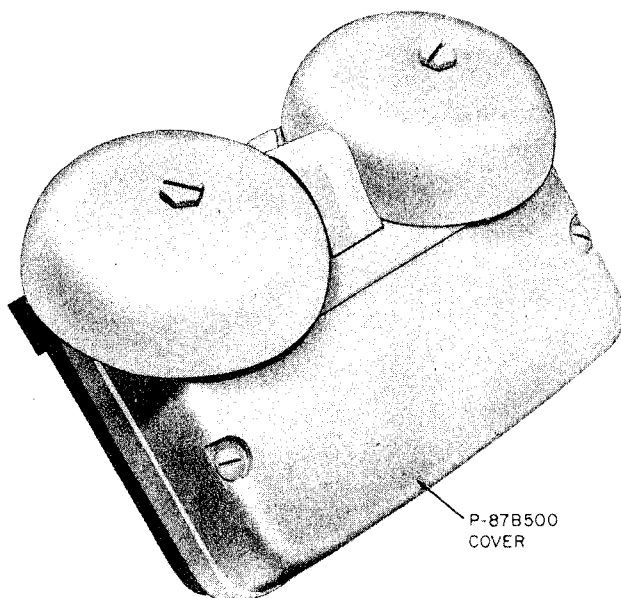

Fig. 1 — L1A Ringer (Assembled)
**2.01** The L1A ringer is a single-coil, high impedance, loud ringing signal for indoor or outdoor use. The ringer has a 2-position bias spring and consists of the components as shown on Fig. 1 and 2.